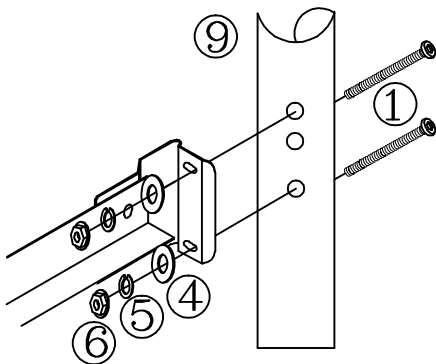

FIGURE 2
- Place 2 screws (1) through holes located in leg (9) (SEE FIGURE 2)
- Place a flat metal washer (4), lock washer (5) and hex nut (6) over on each screw. Hand tighten. DO NOT TIGHTEN screws all the way. (SEE FIGURE 2)
- Tighten all screws securely using the Allen wrench (7) and open wrench (8).